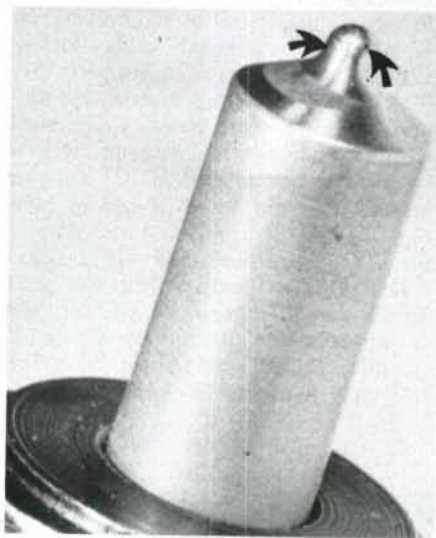

Fig. 124—Nozzle holes (arrows) are not located an equal distance from nozzle tip.
**NOTE:** Spray pattern is not symmetrical with centerline of nozzle tip. The apparently irregular location of nozzle holes (See Figs. 124 and 125) is designed to provide the correct spray pattern in the combustion chamber.